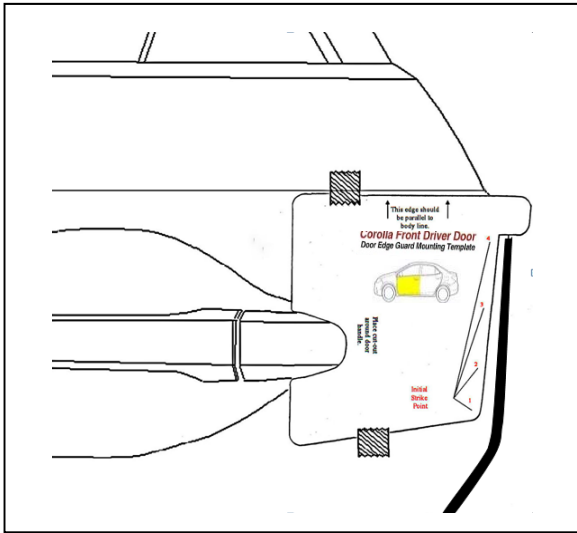

Fig. 1-4
(3) Align the top edge of the DEG (labeled Rear Driver with Green sticker), with the lower edge of the template alignment notch as shown (Fig 1-4).
**NOTE:** The top of the DEG can be identified by matching the profile of the DEG to the door profile (Fig 1-4).